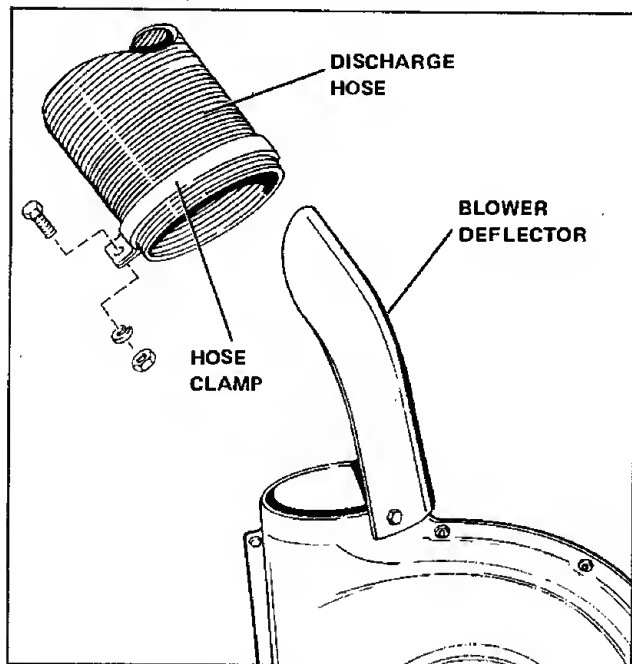

Figure 4. Discharge Hose Installation
6. Place the discharge hose over the blower deflector and attach it to the blower housing with a hose clamp. Tighten screw. (See figure 4.)